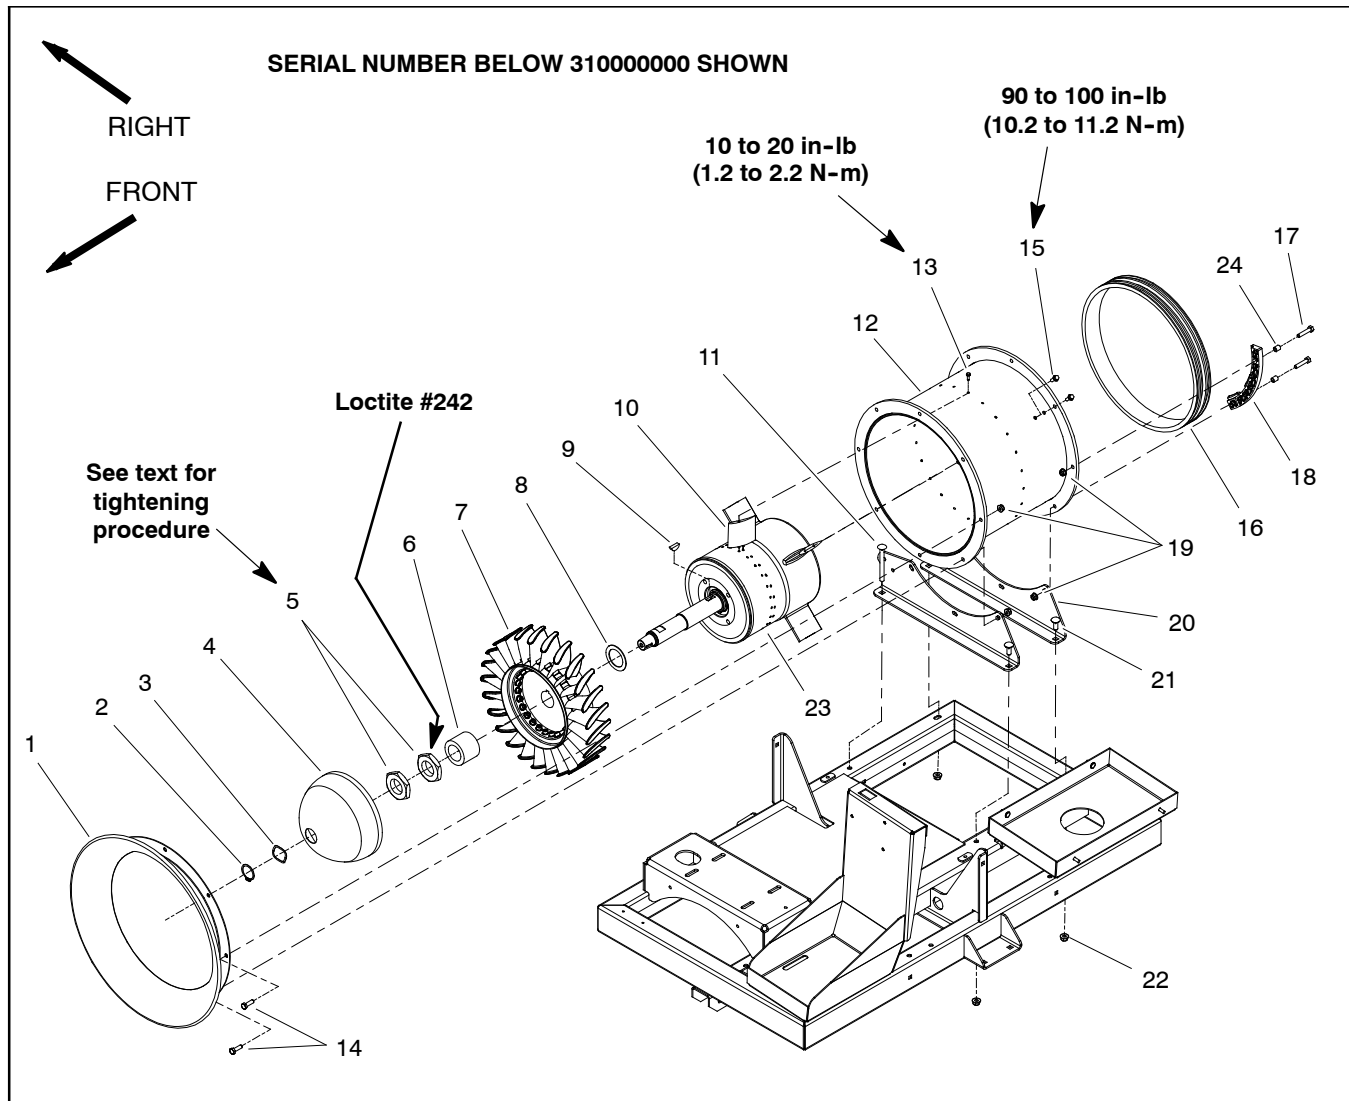
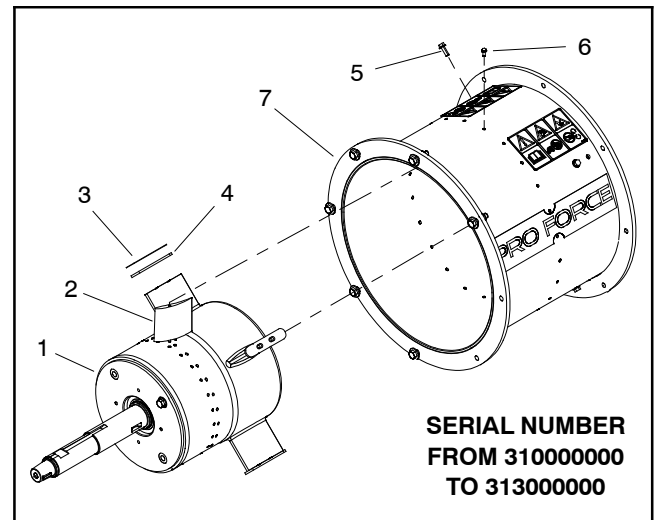
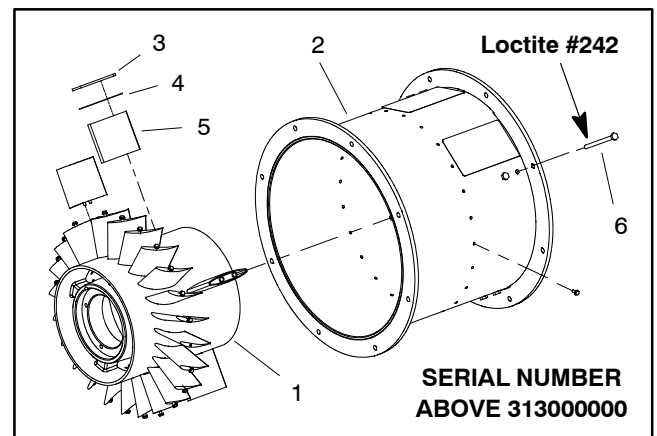
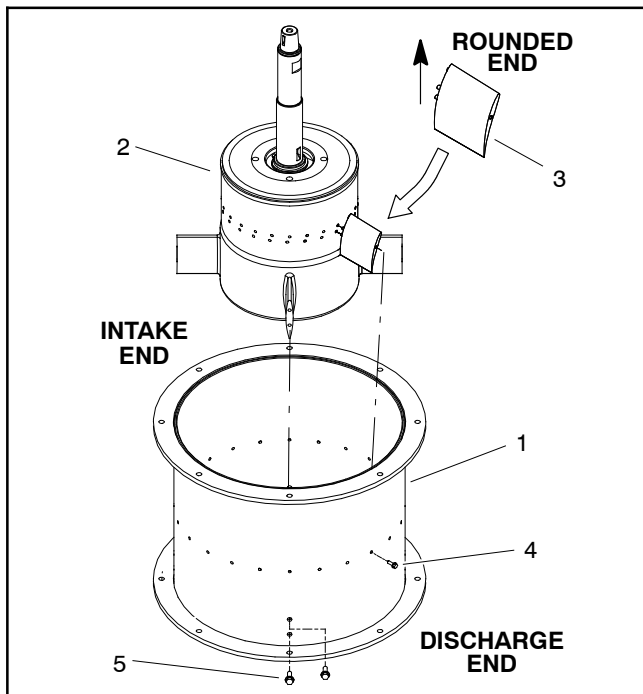

Figure 13
Figure 14
Figure 15
Figure 17
**NOTE:** The rotor shaft and bearings can be serviced without removing inner housing (item 23) from machine (see Rotor Shaft in this section). For replacement of the inner housing, stator vanes (item 10) or outer housing (item 12), the following procedure is necessary.
**NOTE:** ProForce Blowers have used three (3) methods of securing the inner and outer housings. On machines with serial number below 310000000 (Fig. 13), the inner housing is attached directly to the outer housing. On machines with serial number from 310000000 to 313000000, a fin spacer and possibly additional thin spacers exist between the inner housing flanges and the outer housing (Fig. 14). Machines with serial number above 313000000 use four (4) fin mounts with fin spacers and possibly additional thin spacers that are secured between inner housing and outer housing (Fig. 15). Refer to correct illustration when removing and installing inner and outer housings.
## Removal (Fig. 13)
8. Lift fan housing assembly from machine and set on workbench with rotor shaft pointing straight up (Fig. 17).
13.If equipped (machines with serial numbers above 310000000), locate and retrieve fin mounts, fin spacers and thin spacers from between inner housing and outer housing (Fig. 14 or 15). Note location of these components for assembly purposes.
### Installation (Fig. 13)
3. On machines with serial numbers above 310000000, install fin mounts, fin spacers and thin spacers (if equipped) between inner housing and outer housing (Fig. 14 or 15).
4. On machines with serial numbers above 313000000 (Fig. 15), apply Loctite #242 (or equivalent) to threads of screws used to secure inner and outer housings.
5. Make sure that holes in inner housing flanges align with outer housing holes. Install and finger tighten eight (8) screws (item 15) into threads of inner housing flanges. Do not fully tighten screws at this time.
A. Position a vane between inner and outer housing. Make sure that rounded end of vane is orientated toward rotor shaft (Fig. 17).
C. Install and finger tighten flange head screw (item 12) into threads of vane. Do not fully tighten screw at this time.
D. Repeat process for all twenty-four (24) vanes.